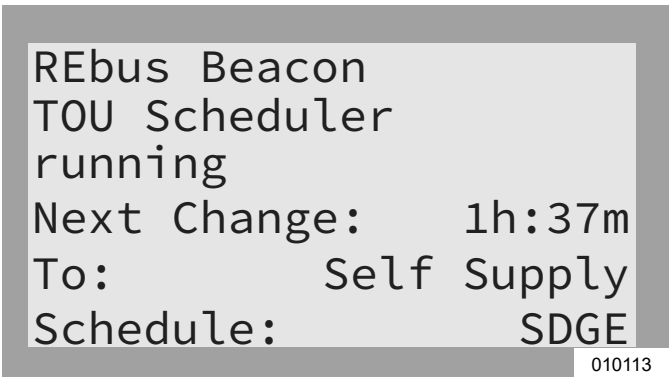

Figure 6-21. Disabling Beacon (1 of 3)
1. See Figure 6-21. Navigate to the Beacon device page and press the center button to enter the device menu.